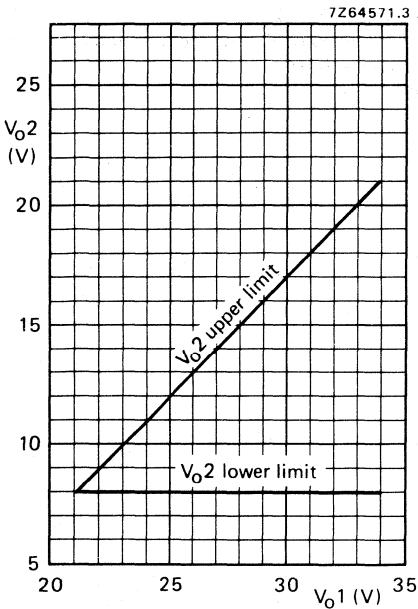

Fig. 6 Range of values for V_{O2} .
10. V_{O2} depends on the value of V_{O1} (see Fig. 6); adjustable with RA2.